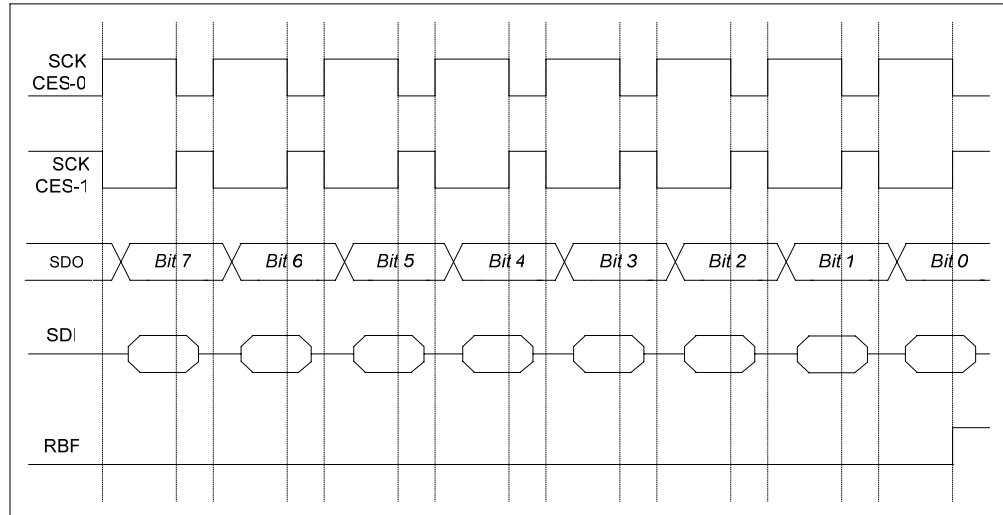
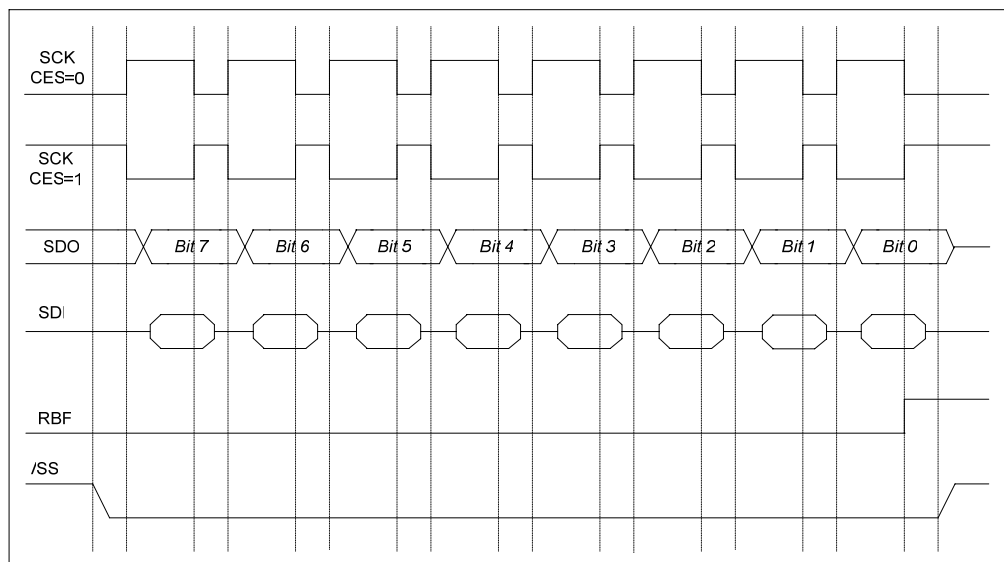

Figure 6-42 SPI Mode with /SS Disable
Figure 6-43 SPI Mode with /SS Enable
- Timing is shown in Figure 6-42 and 6-43
The SCK edge is selected by programming bit CES. The waveform shown in Figure 6-42 is applicable regardless whether the EM78F664N is in master or slave mode, with /SS disabled. However, the waveform in Figure 6-43 can only be implemented in slave mode, with /SS enabled.